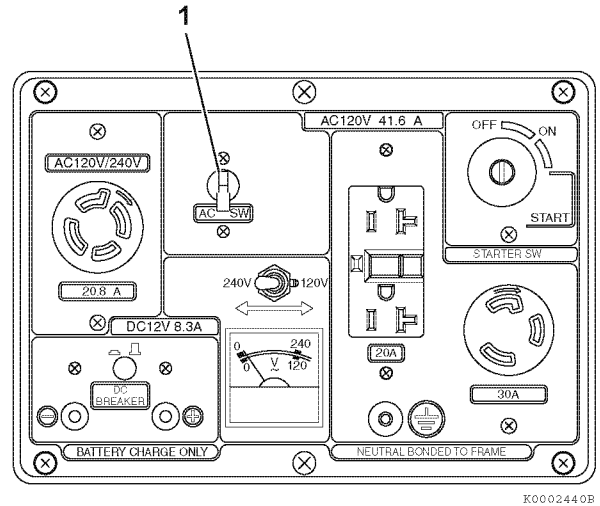

Figure 27
5. Before starting, always turn OFF the main AC switch of the generator (1, **Figure 27**) and any other loads. Make sure nothing is plugged into or connected to the generator.
(1, **Figure 27**) shows the main AC switch on the YDG3700 and YDG5500 generators.